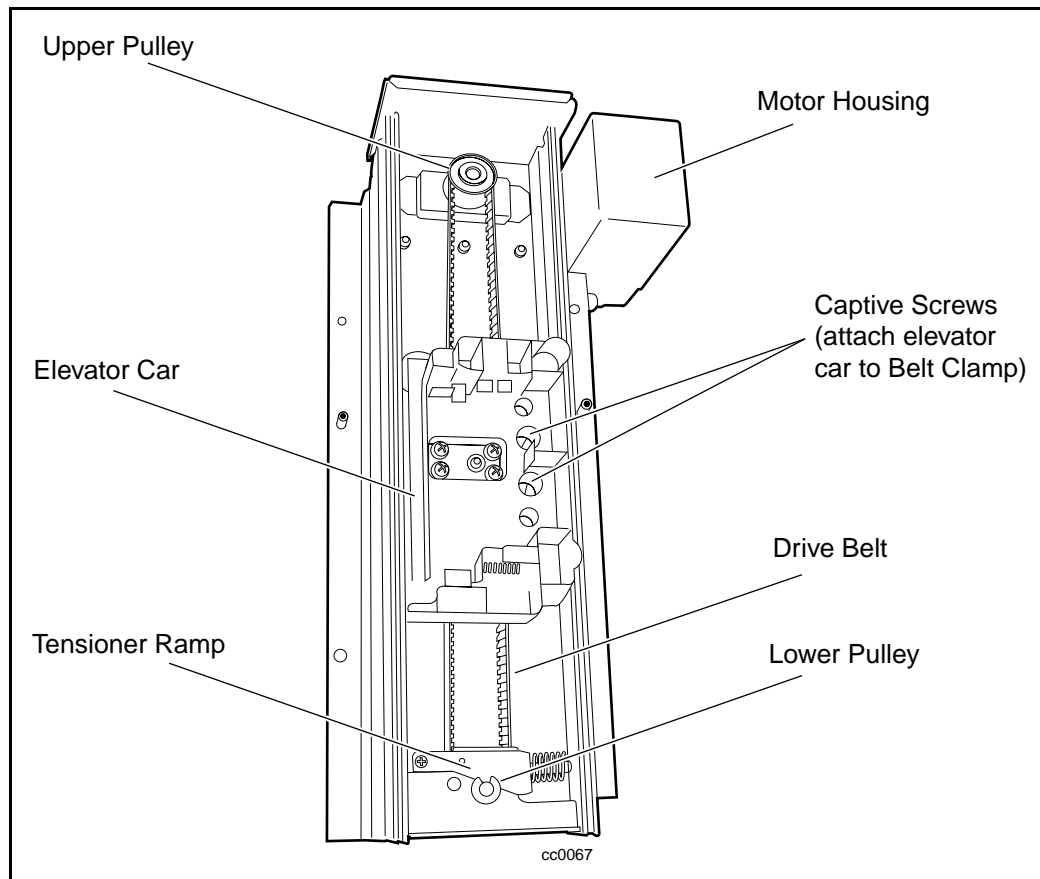

Figure C-23. PTM layout
1. Lay the PTM on a flat surface with the elevator car facing you (see Figure C-23).